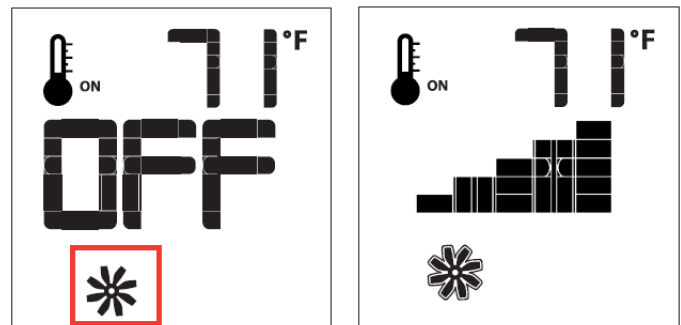

Figure 44. Fan Speed Control
The fireplace is equipped with optional hot air circulating fans. The speed of the fans can be controlled by the Proflame system. The fan speed can be adjusted through six (6) speeds. To activate this function use the Mode Key, see Figure 35, to index to the fan control icon, see Figure 44. Use the Up/Down Arrow Keys to turn on, off, or adjust the fan speed. A single "beep" will confirm reception of the command.